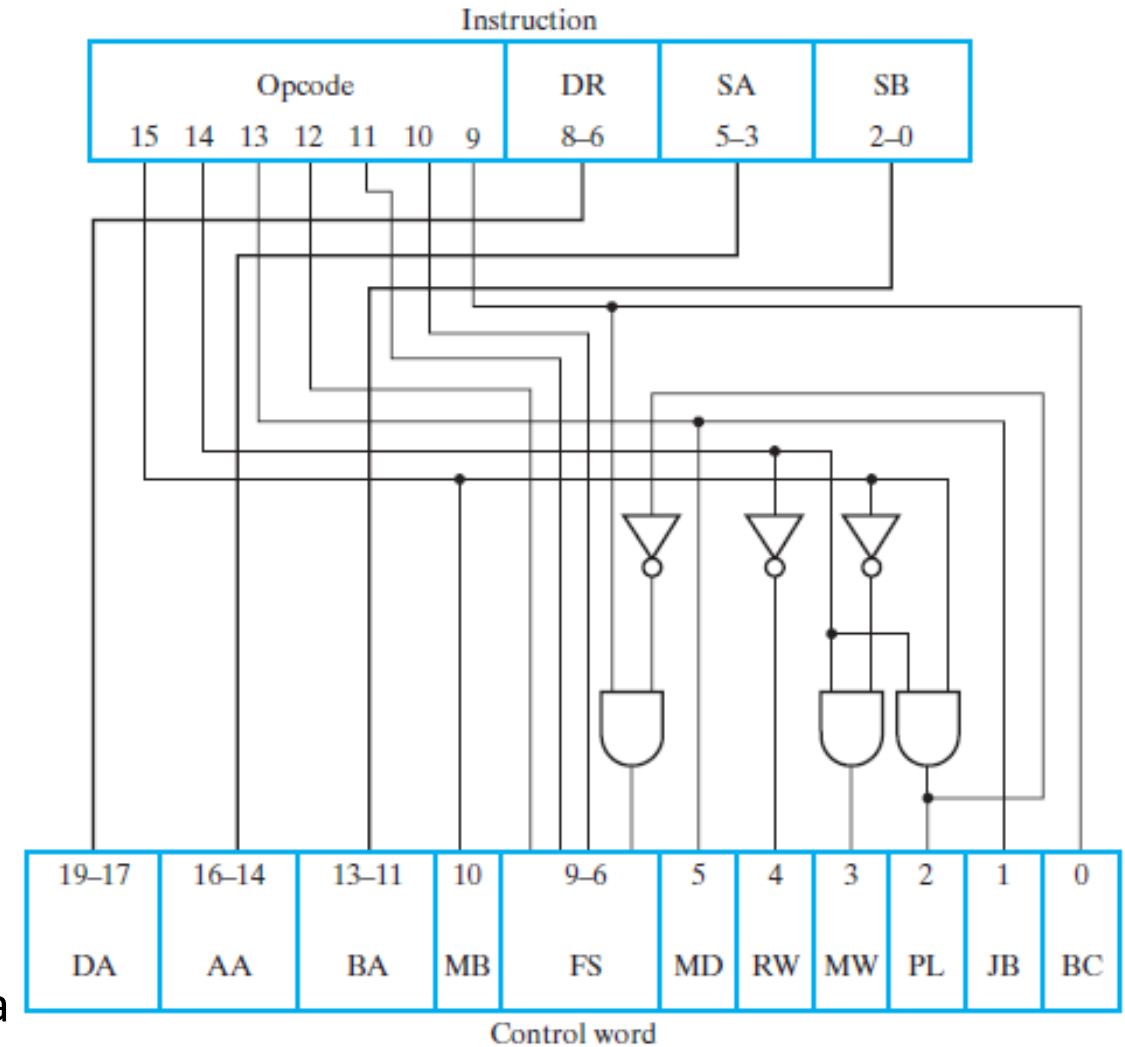

FIGURE 8-16
- Looking at Figure 8-16, we see that the control-word fields **DA, AA, and BA** are equal to the instruction fields **DR, SA, and SB**, respectively.